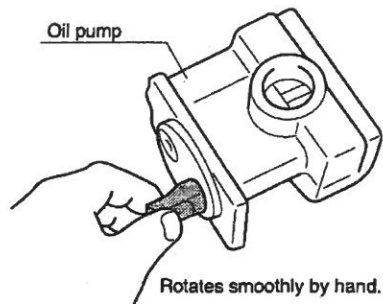

Fig. 44
- (3) Make sure that the pump can be rotated smoothly by hand. (Fig. 44)